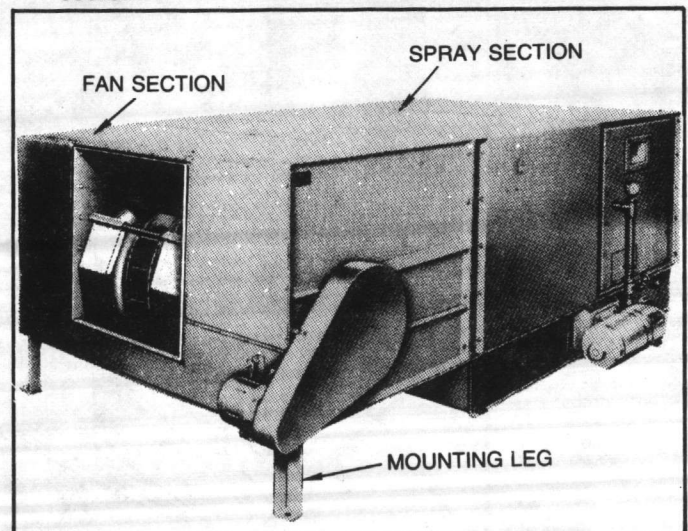

FIGURE 10 - Typical Horizontal Sprayed Coil Climate Changer
3. Horizontal Units Size 35-63 — Attach the spray section to isolators. Fasten the two mounting legs to the fan section drain pan. Set the fan section on the drain pan and bolt in place. Attach the drain pan and fan section to the spray section. See Figure 10.